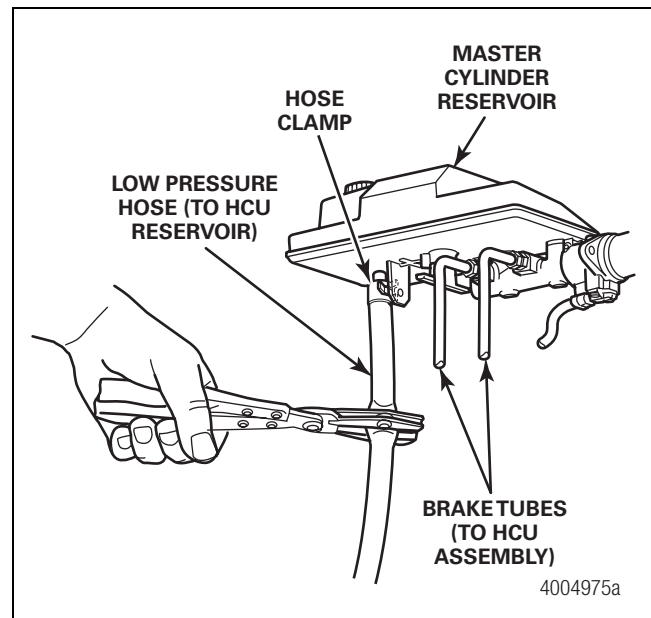

Figure 4.45
6. Attach a pinch clamp to the low pressure hose near the outlet to the master cylinder reservoir. Do not damage the reservoir outlet. Figure 4.45.